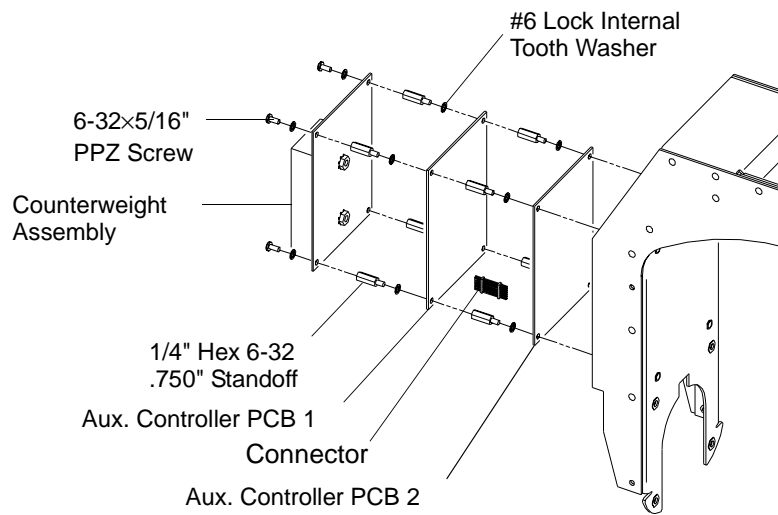

Figure 2-18: Auxiliary PCB Replacement
- Step 3. Remove counterweight assembly by removing four 6-32×5/16" PPZ screws and washers. **Figure 2-18.**